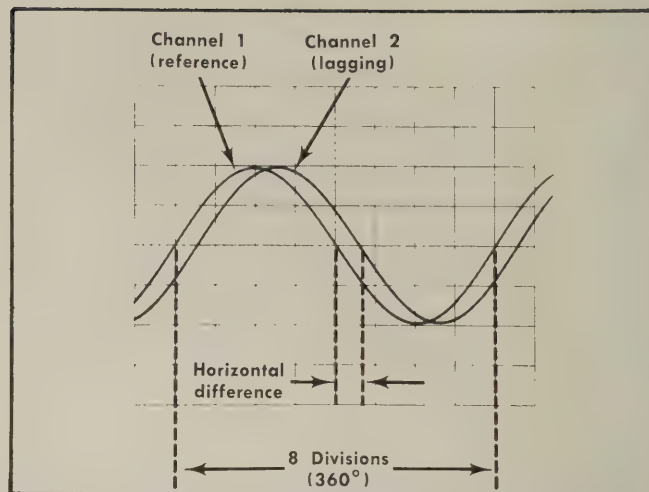
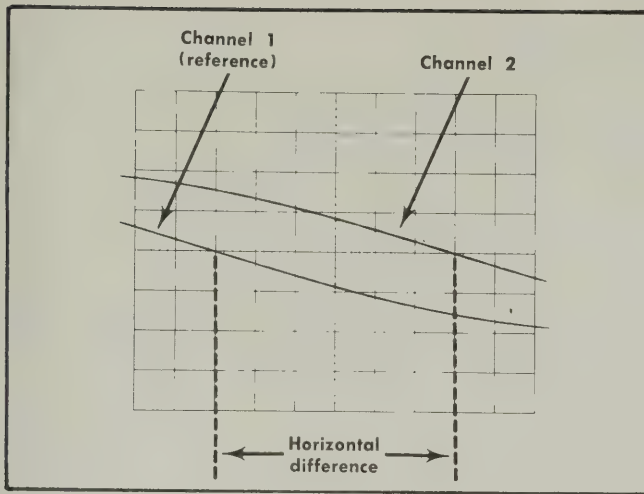

Fig. 2-7. Measuring phase difference.
Fig. 2-8. High-resolution phase-difference measurement with increased sweep rate.
9. Turn the Variable Seconds/Div control until one cycle of the reference signal (Channel 1) occupies exactly eight divisions between the second and tenth vertical lines of the graticule (see Fig. 2-7). Each division of the graticule represents 45° of the cycle ( $360^\circ / 8 \text{ divisions} = 45^\circ / \text{division}$ ). The sweep rate can be stated in terms of degrees as 45°/division.
EXAMPLE: Assume a horizontal difference of 0.6 division with a sweep rate of 45°/division as shown in Fig. 2-7.
**EXAMPLE:** If the sweep rate were increased 10 times with the magnifier, the magnified sweep rate would be  $45^\circ/\text{division} \div 10 = 4.5^\circ/\text{division}$ . Fig. 2-8 shows the same signals as used in Fig. 2-7, but with the SWP MAG button pushed in. With a horizontal difference of six divisions, the phase difference is: